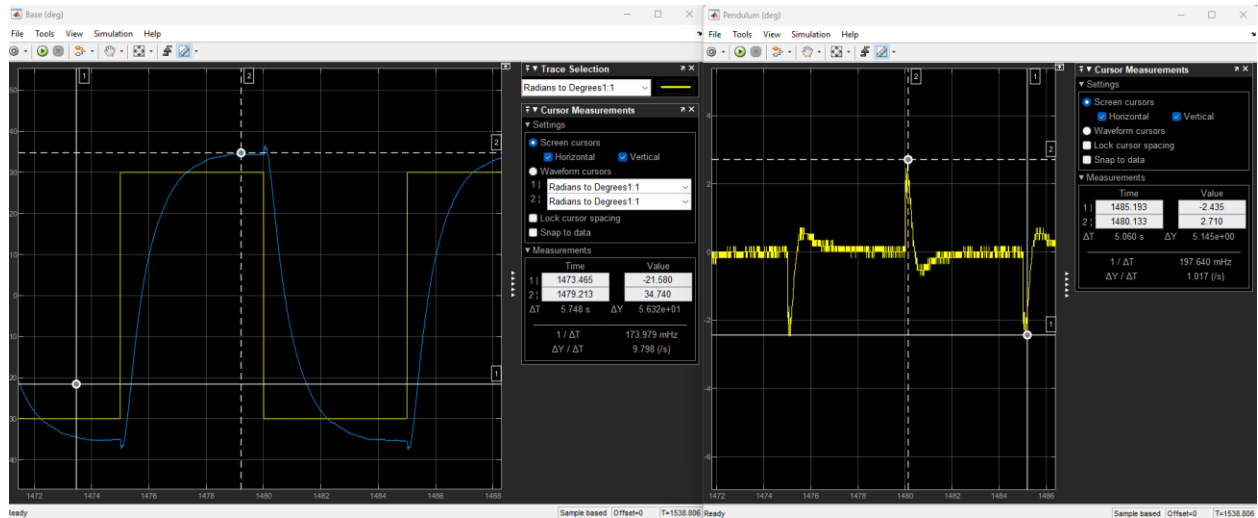

Figure 3: Sample response of an LQR controller meeting the design requirements.
26. The measurement tool can be used to measure the performance of the controller as shown in Figure 3 below: